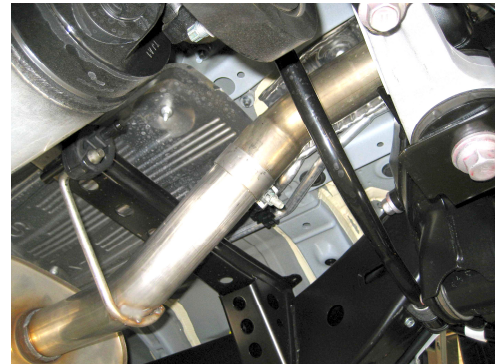

Figure 5
2. Place a clamp over the expanded end of the intermediate pipe and set it into position as shown in figure 5. Do Not tighten the clamp.